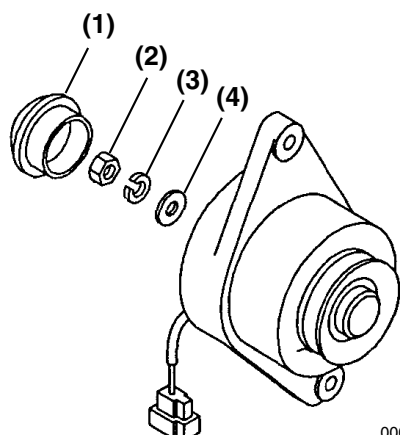

Figure 12-24
1. Remove the rear cover (**Figure 12-24, (1)**).
2. Remove the nut (**Figure 12-24, (2)**), lock washer (**Figure 12-24, (3)**), and flat washer (**Figure 12-24, (4)**).